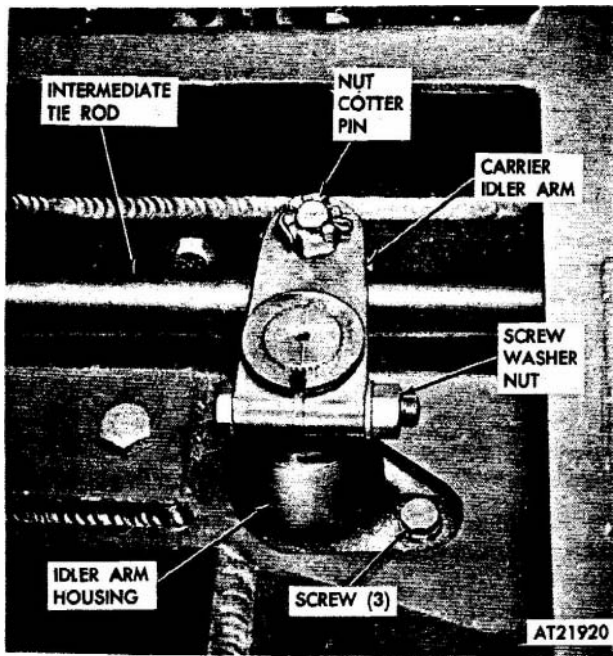

Figure 2-267. Carrier idler arm and housing, removal and installation.
(1) Remove cotter pin and nut securing idler arm to intermediate rod assembly (fig 2-267).
(2) Remove idler arm by removing screw, nut, and lock washer securing idler arm to idler housing assembly shaft.
(1) Position idler arm to idler housing assembly shaft and intermediate rod shaft (fig 2-267).
(2) Secure idler arm to intermediate rod assembly with nut and cotter pin.
(3) Secure idler arm to idler housing shaft with bolt, lock washer, and nut. Torque nut to 95-120 lbs-ft.
(1) Remove cotter pin and nut securing intermediate rod to idler arm (fig 2-267).
(2) Disconnect intermediate rod from idler arm.
(3) Remove idler arm by removing bolt, nut, and lock washer securing idler arm to idler housing shaft.
(4) Remove idler housing assembly by removing three screws securing housing to carrier frame.
(1) Position idler housing assembly to mounting holes and secure with three screws. Torque screws to 45-55 lbs-ft. (fig 2-267).